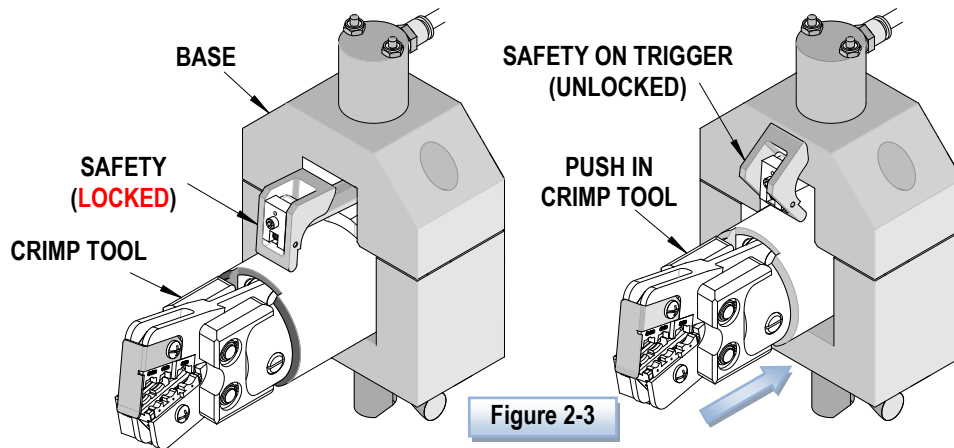

Figure 2-3
1. Slide the Air Powered Crimp Tool into the base. The safety will bump against the base top and the trigger on the crimp tool will unlock. See Figure 2-3.